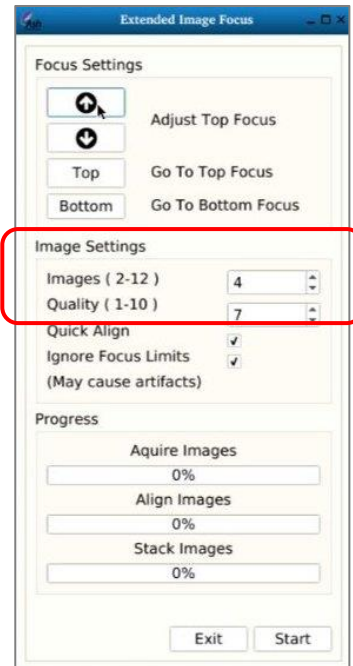

Fig. 33
6. For better image quality you can increase the number of images taken in the stack and/or you can increase the quality (Fig.33). Doing so will increase the size of the image.